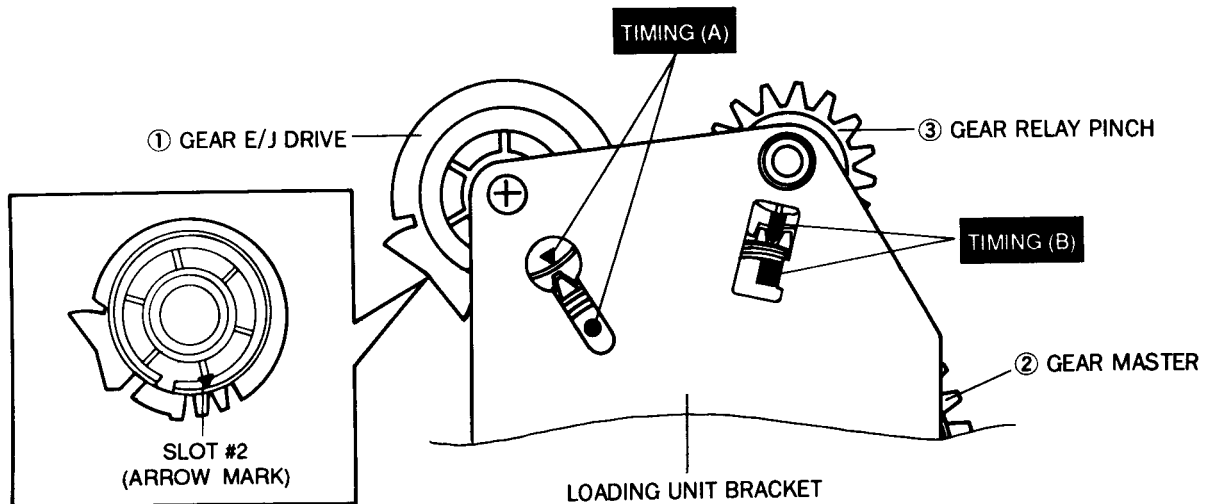

Fig. 55 Timing of Gear Master & Gear Eject Drive
2. Install the loading unit and align the slot #2 of the gear eject drive ① with the hole of the gear master ②. (Refer to timing (A) in Fig. 55)
3. At this time, make sure that the timing (B) of the gear relay pinch ③ and the gear master ② are aligned correctly.